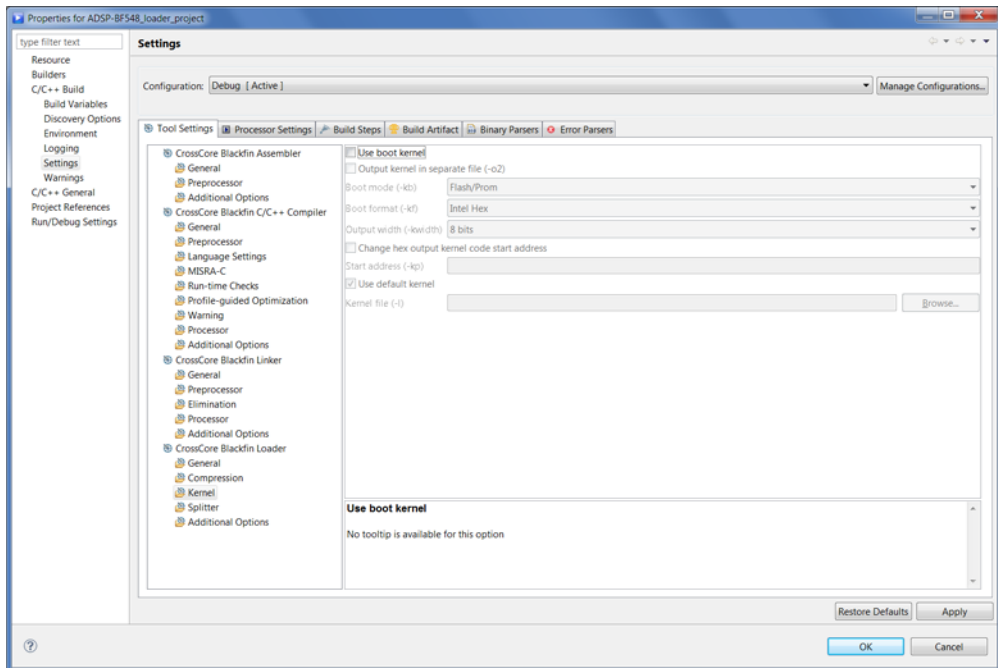

Figure 2-2. Load: Tool Setting: Kernel Page for ADSP-BF548 Processors
Unless you develop a second-stage loader and use it, most of the options on the **Kernel** page are grayed out. Figure 2-2 shows a sample **Kernel** page with options set for an ADSP-BF548 Blackfin processor.
2. Select **Kernel** (in the **Tool Settings** tab) to set up the second-stage loader options (Figure 2-2).